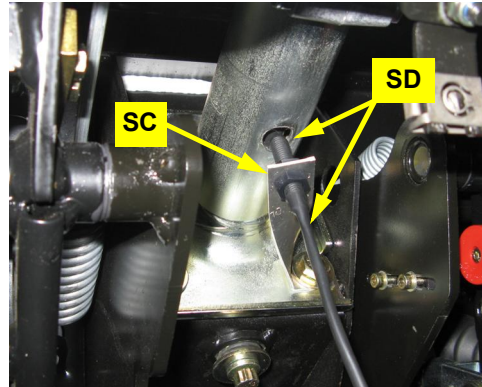

Figure 1f: Installed switch/sensor assembly
- f. Install switch **SD** in bracket **SC** and adjust the sensor face to 1/8" to 1/4" from the magnets (Figure 1f).
Figure 1f with inset: Switch cable routed over pedal mounts.